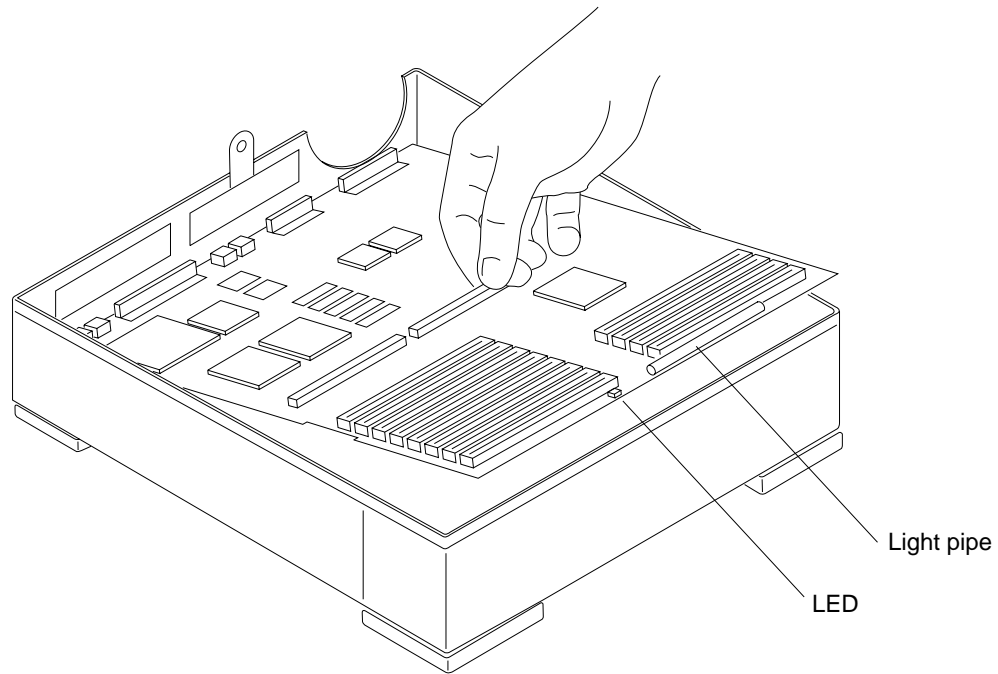

Figure 4-18 Removing and Replacing the Main Logic Board
18. Grasp the board by the SBus connectors with both hands. Raise the front of the board and lift it out toward the front of the unit (see Figure 4-18). Avoid handling any of the delicate electronic components or touching any of the main logic board's traces.